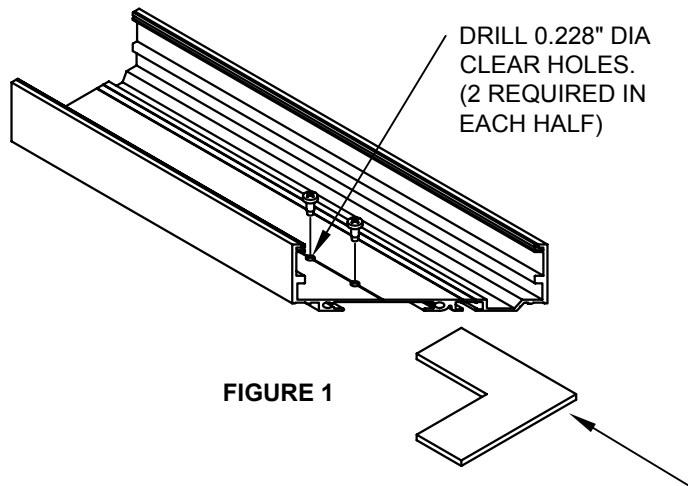

FIGURE 1
- STEP C:** Locate the corner plate under the mitered section. Match drill with #11 (0.191" dia hole) drill bit and fasten with 028312 (#12 x 1/2" PHTF "AB") screws. (Figure 1)